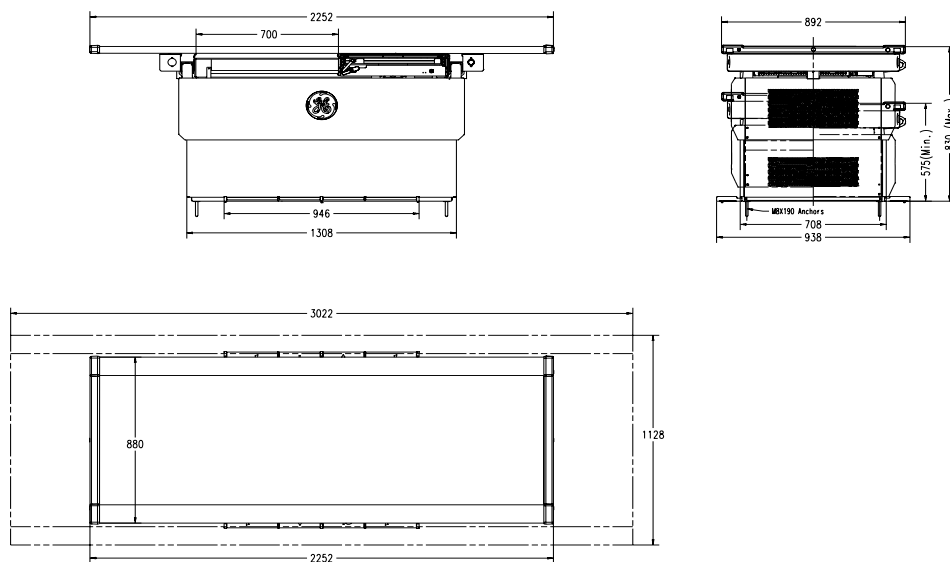
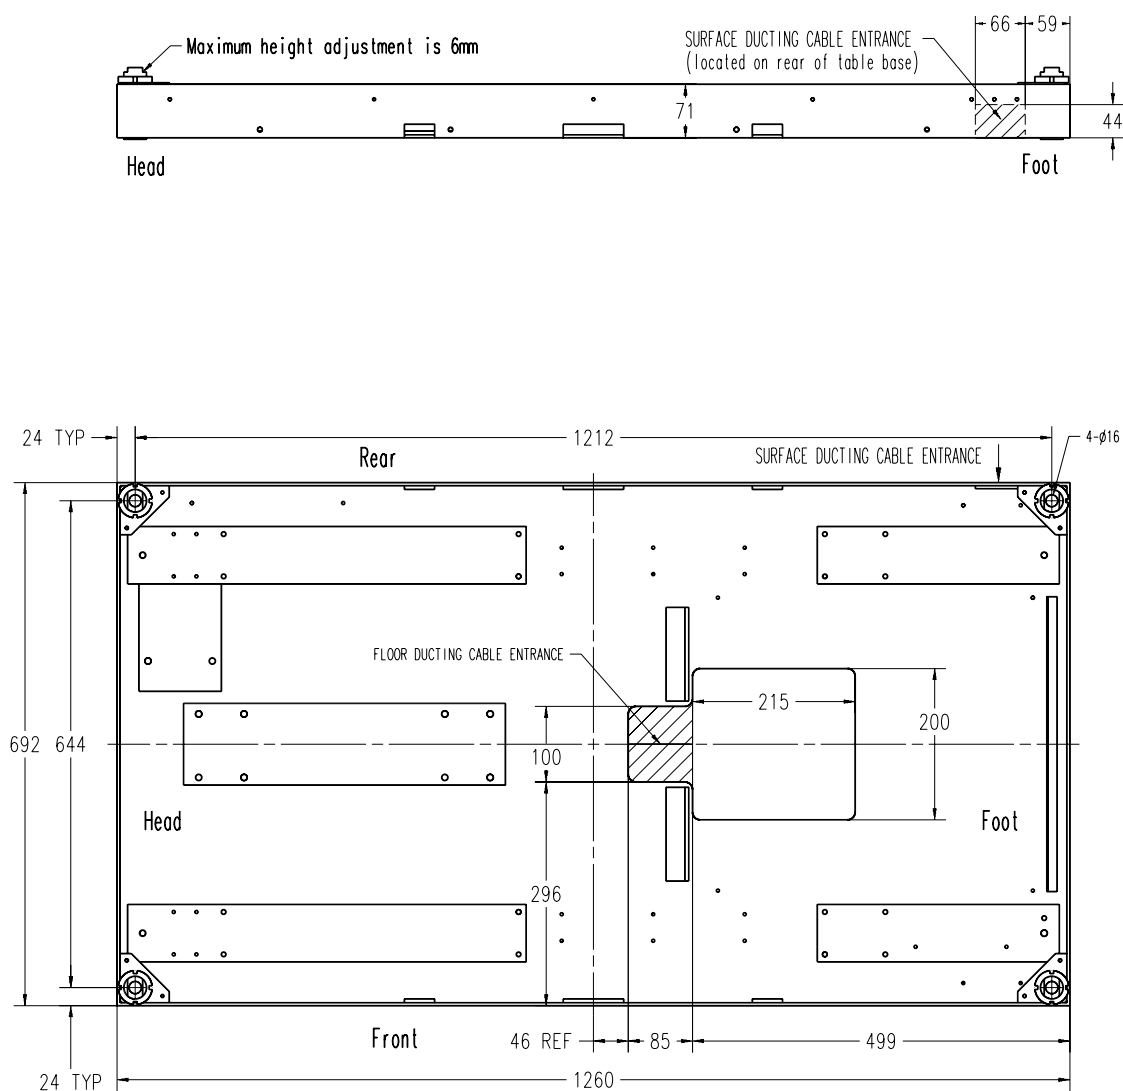

Figure 5-7 Definium™ 6000 Table Views
Figure 5-8 Definium™ 6000 Table Bottom Plate
- Digital Table (TBL) - Figure 5-7 through Figure 5-8.